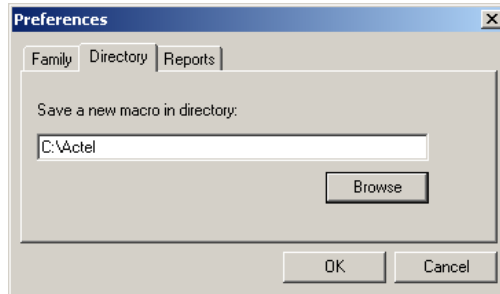

Figure 1-5. Preferences Dialog Box - Directory Tab
2. **Change your default directory.** Click the Directory tab to change your default working directory, as in Figure 1-5.